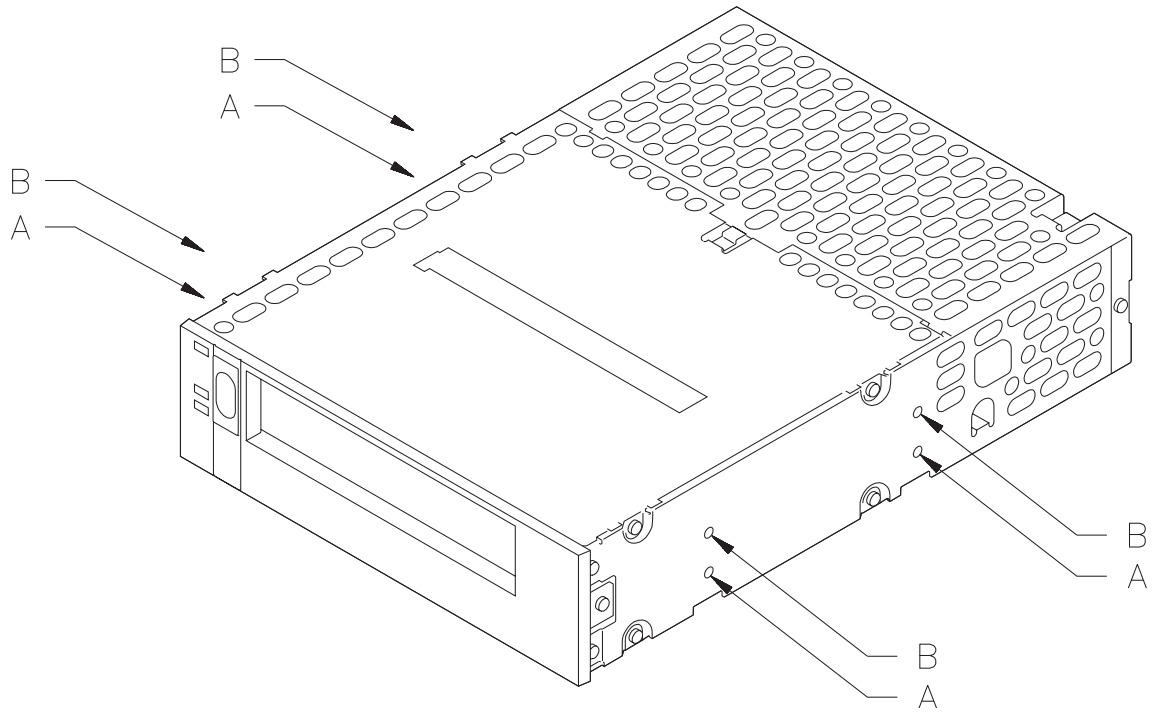

Figure 4-2 Mounting holes on the sides
- Use either one of the two sets of four mounting holes on the sides of the tape drive (shown as “A” or “B” in Figure 4-2) or the four mounting holes on the bottom of the tape drive (shown as “C” in Figure 4-3).